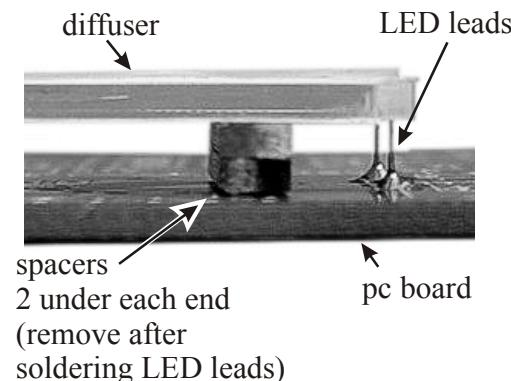

Figure 5-9
- Position the backlight assembly between the mounting holes labeled D2 and D3 as shown in Figures 5-9 and 5-10 with two 3/4" (19 mm) long spacers under each end. *The diffuser must be parallel to and 1/8" (3 mm) above the PC board.* Use a rubber band to hold the backlight assembly and spacers in place.
Solder the four corner pins of the LCD, and then re-check the alignment of the LCD assembly. If everything looks correct, solder the remaining pins. LCD pins can be soldered on the top of the board if they do not protrude from the bottom. If the leads do not reach through the holes, be sure the solder fills the gap between the lead and solder pad (see Figure 5-9). After soldering, remove the spacers at each end. The leads will hold the assembly securely in place.